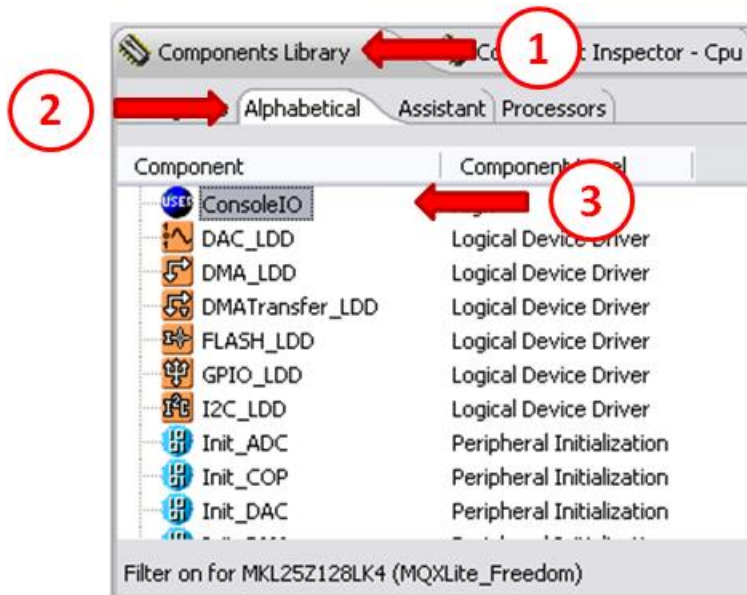

Figure 20. Components Library
1. Click in the “Components Library” tab as figure 20 shows. Then click in Alphabetical tab and look for the “ConsoleIO” component. Double clicking in the “ConsoleIO” component